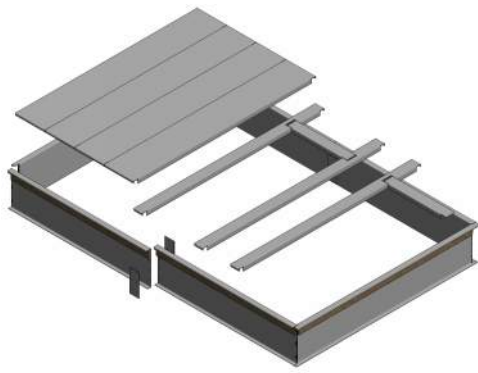

Figure 1
2. Position perimeter pieces as depicted in Figure 1 and Figure 2 with wood to the outside, keeping the raw ends with the brackets holes facing one another.
5. Install duct support pieces per Figure 1 and Figure 2.